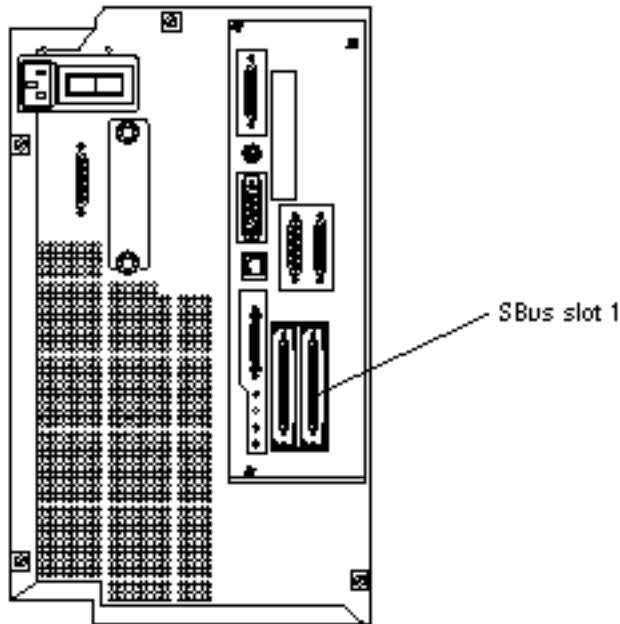

Figure B-1 Connecting an External Disk Enclosure to the Netra NFS Server
1. **Verify that you have a Fast-Wide SCSI card installed in SBus slot 1 in the Netra 150 server (Figure B-1).**
2. Connect the SCSI cable from the external disk enclosure to the SCSI port on the Fast-Wide SCSI card installed in SBus slot 1 in the Netra 150 server (Figure B-1).